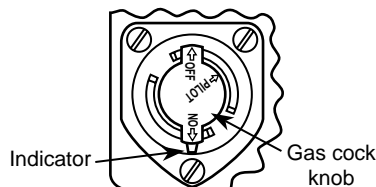

Figure 9. Gas Cock Knob
4. Depress gas control knob slightly and turn clockwise to **OFF** (see fig. 9). If knob is in **ON**, turn clockwise to **PILOT**, then depress knob slightly and turn clockwise to **OFF**.
5. Wait fifteen (15) minutes to clear out any gas. If you then smell gas, **STOP!** Follow **B** in the precautionary information above. If you don't smell gas, go to next step.
9. Depress control knob all the way and hold in. **Immediately** light the pilot with a match. Continue to hold the control knob down for about one (1) minute after the pilot is lit. Release knob and it will pop back up. Pilot should remain lit. If it goes out, repeat steps 4, 5, 8, and 9.